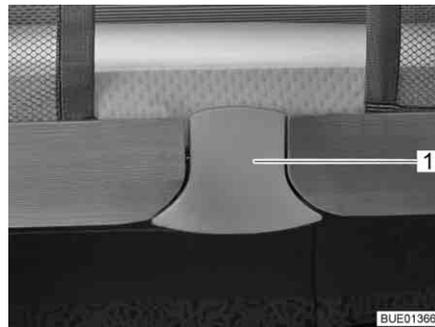

Fig. 76 Release
- Pull out the release area (Fig. 76,1) at the bottom. The lock is released.